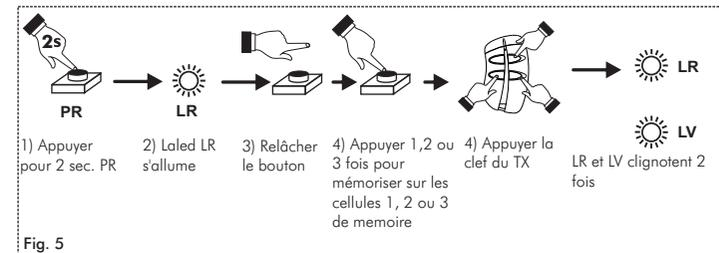

Fig. 5
2) Memorisation of the second transmitter key (Fig.5)
3) Memorisation of the third transmitter key (Fig.5)
4) Memorisation of the fourth transmitter key (Fig.5)